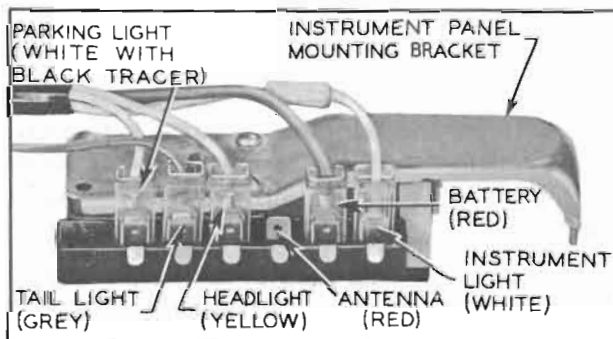

Figure 10-52—Lighting Switch
If the lighting switch is suspected of being faulty, the contacts can be tested by connecting a short jumper wire between the switch feed terminal and the other terminals while observing any change in the brilliance of lights affected. See figure 10-52.
3. Remove switch mounting nut with Wrench J-1589-A and remove switch and escutcheon from instrument panel. See figure 10-52.